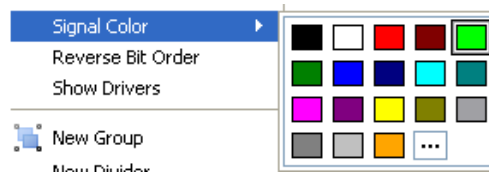

Figure 3-21: Changing the Signal Color
2. Select **Signal Color**, and pick a color from the color palette or a custom color by clicking the **Browse** button, (see Figure 3-21).